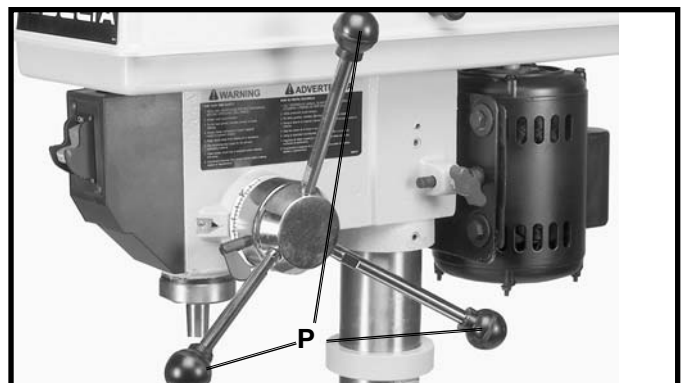

Fig. 16
12. Thread the three pinion shaft handles (P) Fig. 16, into the three tapped holes located in the pinion shaft, as shown.